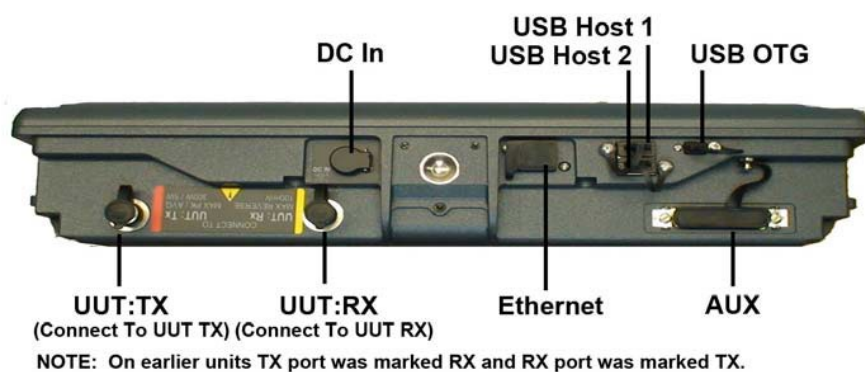

**Figure 1-2 Launch Bar**
2. On the launch bar, press the **Test Setup** function key. See Figure 1-2.
7. On the launch bar, press the **Simulation** function key. See Figure 1-2 and 2-2.
8. On the launch bar, press the **Simulation** function key. See Figures 1-2 and 2-2.
5. On the launch bar, press the **Profile Setup** function key. See Figures 1-2 and 4-1.